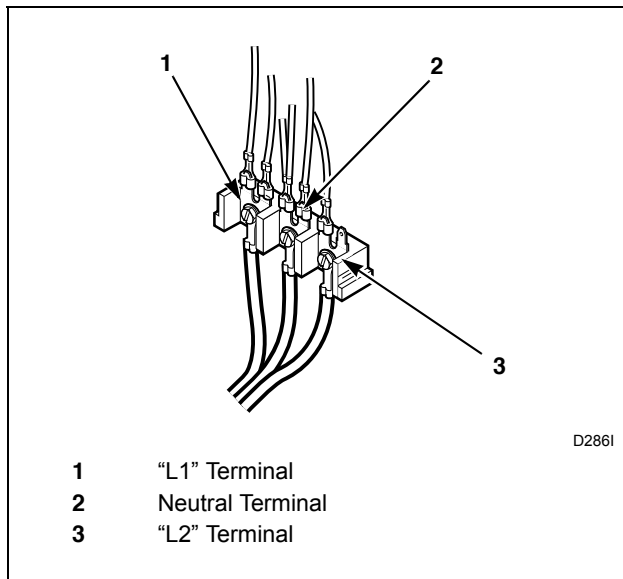

Figure 13
- Use the three screws from the accessories bag to attach the power cord wires to the terminal block. Refer to *Figure 13*.